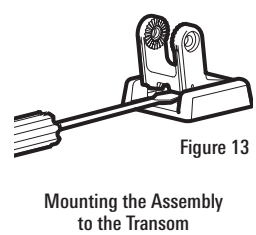

Figure 14
5. Align the mounting bracket transducer assembly with the drilled holes in the transom. With a 5/16" socket driver, mount the assembly to the transom using the two #10 - 1" long screws provided (Figure 14). **Hand-tighten only!**